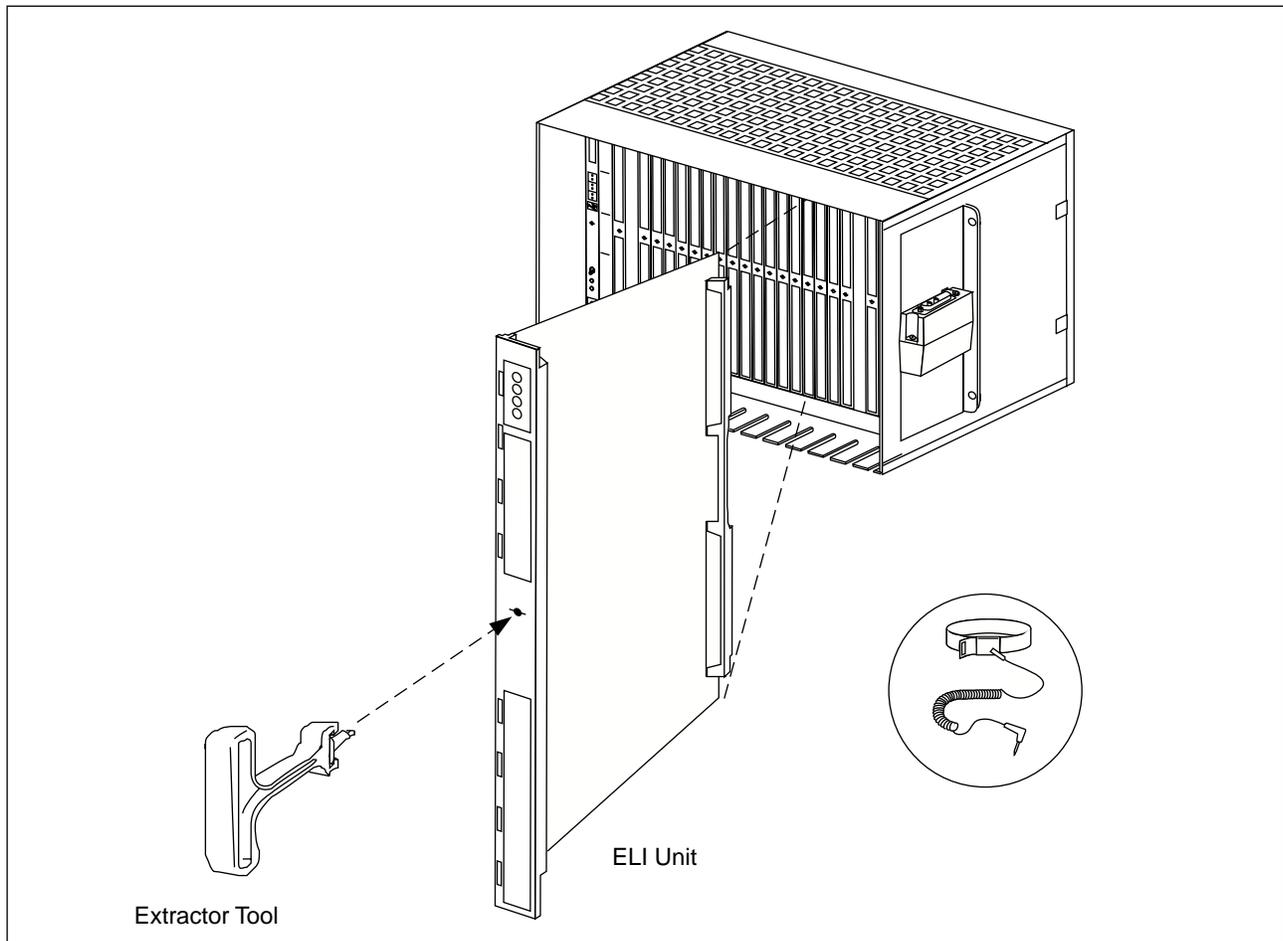

Figure 6-12. ELI Unit Removal
7. At the top of the CRI magazine, carefully press the plastic retaining catch upwards and use the extractor tool to remove the ELI unit from the CRI magazine (Figure 6-12 on page 6-39).